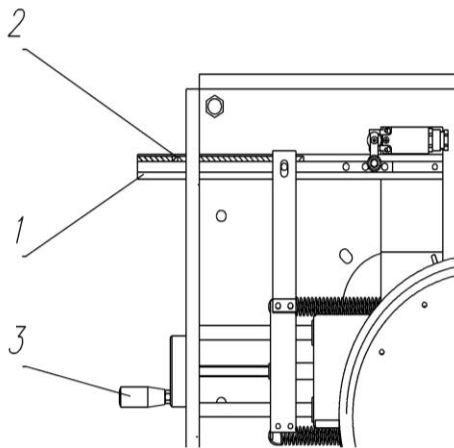

Fig. 49 Indicator on the side of the drive unit
The side of the drive unit is equipped with an indicator where the wire tension can be watched currently without having to dismantle the front plate. The indicator consists of a blue C-profile (pos. 1, Fig. 49) with coloured scale. A yellow indicator (pos. 2, Fig. 49) slides inside the profile. As described in a previous section the wire tension is adjusted by turning the hand wheel (pos. 3, Fig. 49) until the yellow indicator is flush with the end of the blue C-profile.